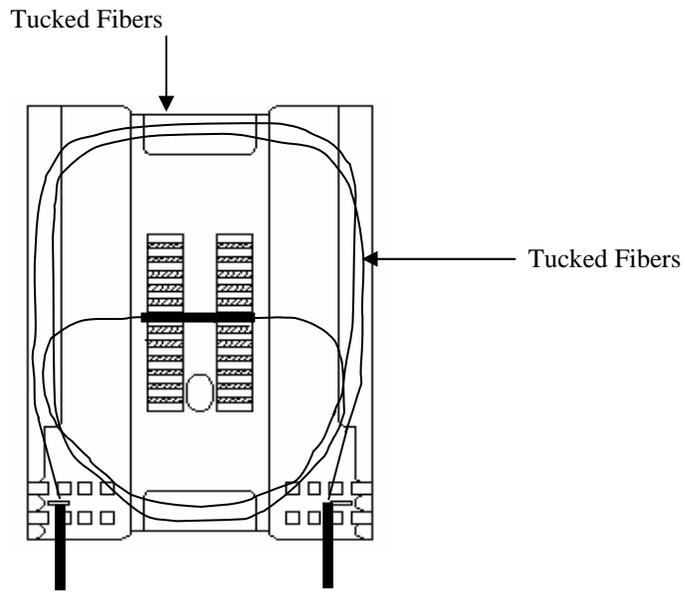

Figure 17 – Splice Installation
Step 31 - Tuck all remaining fibers under lips of the splice tray (See Figure 17 below).